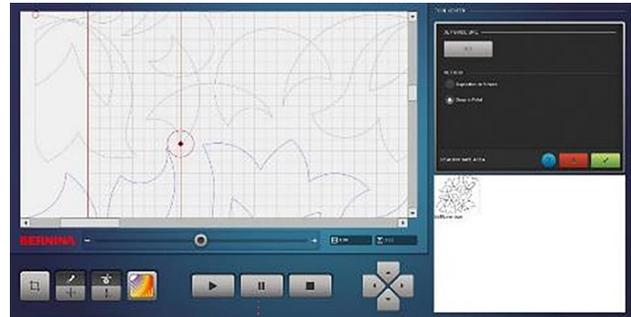

Fig. 64
4. Next, select Snap To Point. Zoom in on the Q-matic screen to the point being snapped to. Click on the exact point on your Q-matic screen as where the needle is on the quilt (Fig. 64). Remember, you are snapping to a point on the last previously stitched row, so the point you are snapping to on the Q-matic screen is grayed out as it has already been stitched.